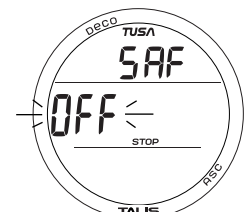

Fig. 40 - SET SAFETY STOP
**SET NORM SAFETY STOP**, information includes (Fig. 40):